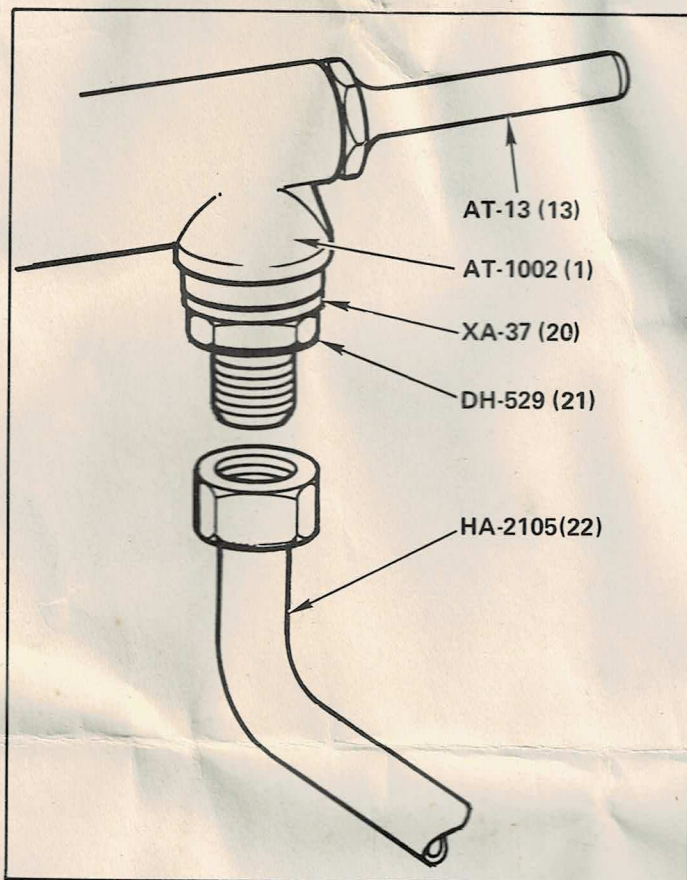

FIGURE 3: Converting Model No. 106.168120 to sand hopper operation.
TO CONVERT MODEL NO. 106.168120 FROM CANISTER TO SAND HOPPER OPERATION — Refer to Figures 3, 6, 7 — Make sure that the material hose (22) is connected to the sand hopper. This is done by slipping the end of the hose without the fitting onto the end of the discharge tube at the bottom of the sand hopper. When the hose connection has been checked, then remove the canister (15), the material tube (11), and canister top adapter (2). Slip the jam nut gasket and jam nut (found in small parts pack) onto gun body assembly (1), as shown in Figure 3. Screw the jam nut tightly against the jam nut gasket. Attach the hose (22) to the gun. Your gun is now ready for sand hopper operation. To convert the gun back to canister operation, just reverse the procedure stated above.